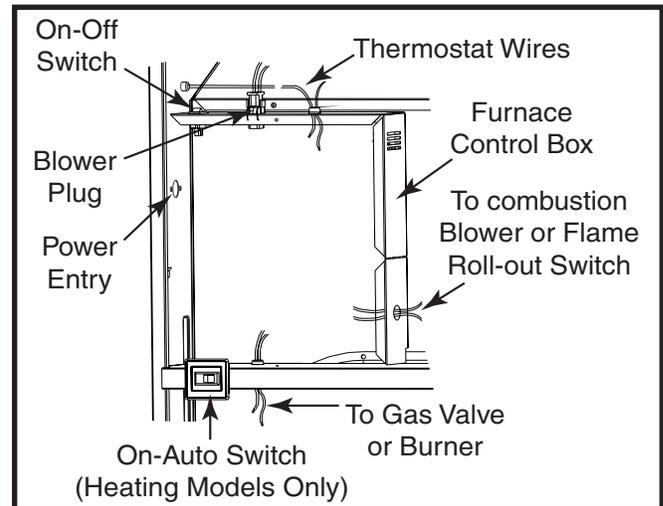

Figure 25. Control Panel (All Models)
2. Route wires (115 VAC) through the strain relief on the left side of the furnace control box. See Figure 25.